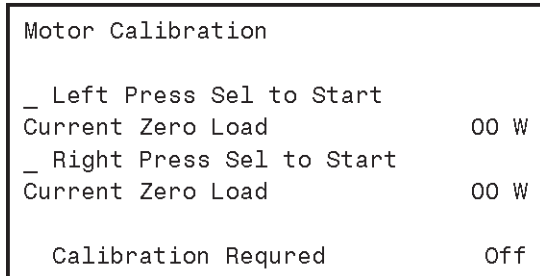

Figure 2-5
3. Push the manifold adapter with spring and valve into the left port (nearest the manifold outlet) of the mix inlet manifold and secure with a retaining clip. (Fig. 2-5).
3. Push the manifold adapter with spring and valve into the left port (nearest the manifold outlet) of the mix inlet manifold and secure with retaining clip. (See Figure 2-5).